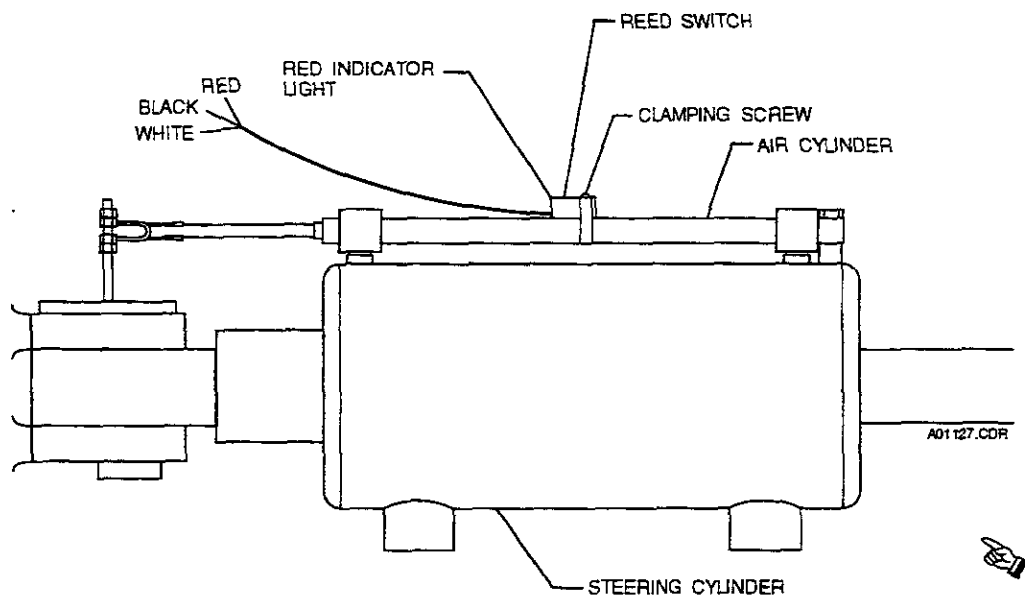

FIGURE 6.5 STEERING SENSOR ASSEMBLY
- (10) Once wheel is aligned, adjust rear cable tumble (9) to match rod end with proportional valve, DO NOT MOVE ARM (11). Then bolt rod end (12) to valve arm (11).
- (11) After front and rear wheels have been properly aligned with frame, check and adjust, if necessary the steering sensor located on rear axle steer cylinder. (Figure 6.5)
- (12) Operate and check steering operation before returning to service.